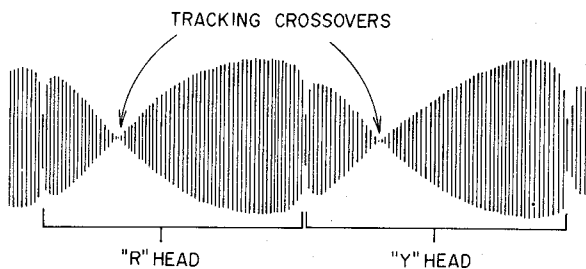
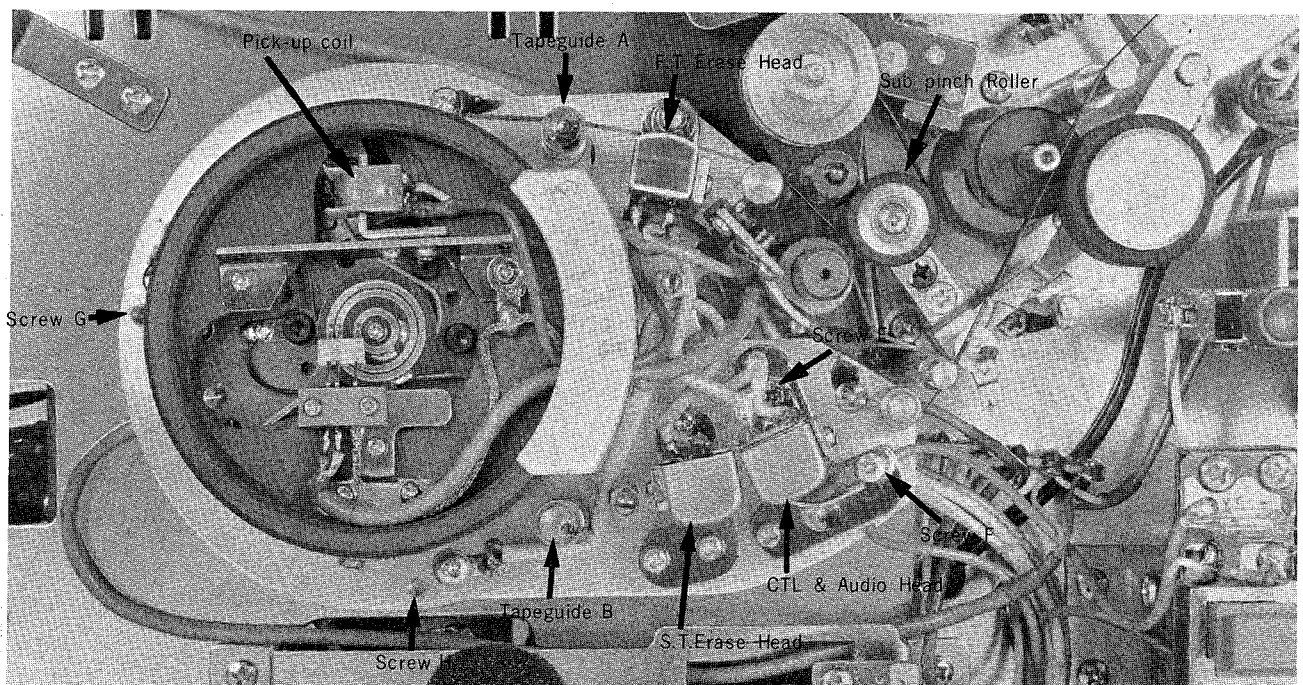

Fig. 12
Fig. 13
- (d) If Tracking Crossover appears on RF Envelope as shown in Fig 12, adjust height of Tape Guides 'A' and 'B' (Refer to Fig. 13).
- (g) If R.F. Envelope amplitude fluctuation still exists even after the above adjustments have been carefully completed, loosen Video Head Assembly Holding Screw and turn Screws 'G' and 'H' clockwise 1/2 or 1 turn (Fig. 13). At this condition, again carry out adjustment described in Item (f) above.